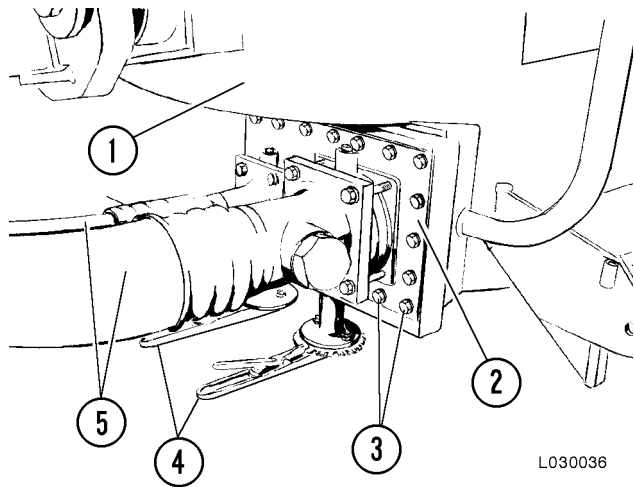

FIGURE 3-19. STRAINER REMOVAL
3. Disconnect pump suction hoses. (5, Figure 3-19).
4. Remove capscrews and lockwashers (3) securing cover (2) to the hydraulic tank. Remove and discard gasket.
2. Using new cover gasket move cover (2, Figure 3-19) into place and install capscrews and lockwashers (3). Tighten capscrews to standard torque.
4. Fill the hydraulic tank; refer to Hydraulic Tank Filling Instructions. Open both suction line shut-off valves (4).